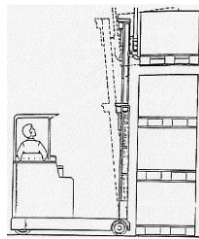

fig. 4
5. Lift the load until it is clear of the stack and carefully apply backward tilt just sufficient to stabilise the load. (See *fig. 4*)